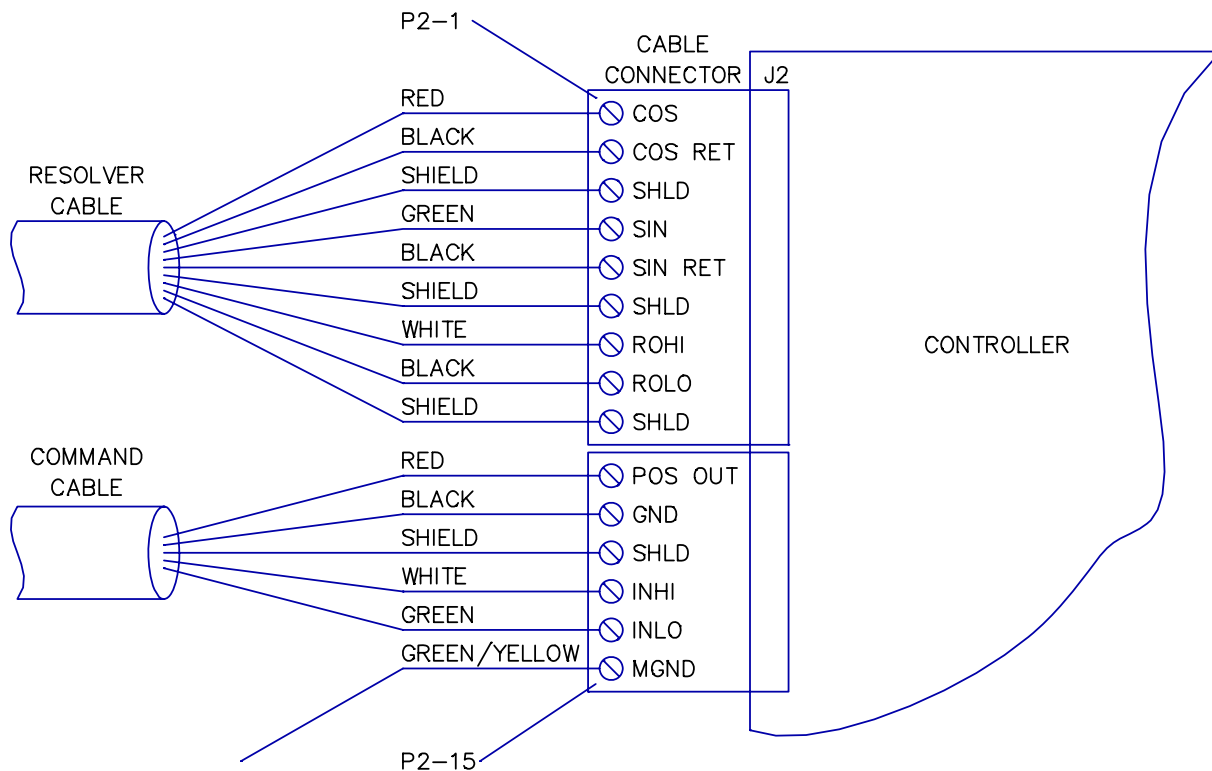

Figure 5-3 Connecting Meter Leads to Plug Pins
3. Connect a jumper between P2-13 (Figure 5-3) (green wire) and P2-14 (white wire).
7. While observing the shaft of the motion device, connect the red and black meter leads to pins 10 and 11 of the P2 connector (Figure 5-3) respectively. The shaft should rapidly accelerate in a counterclockwise direction.
5. Connect the meter leads to P2-7 and P2-8 (white and black wires of cable, Figure 5-3).
3. With the 9-pin connector P2 connected to the controller, connect the meter leads to P2-1 and P2-2 (Figure 5-3).
7. With P2 connected to the controller, connect the meter leads to P2-4 and P2-5 (Figure 5-3).